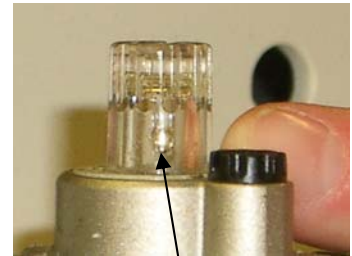

Figure 46
1. Activate the reciprocating knife or pneumatic router by choosing the Activate command in the Tool Settings menu. This will turn on the tool so that you can verify the time between drops. See Figure 46.